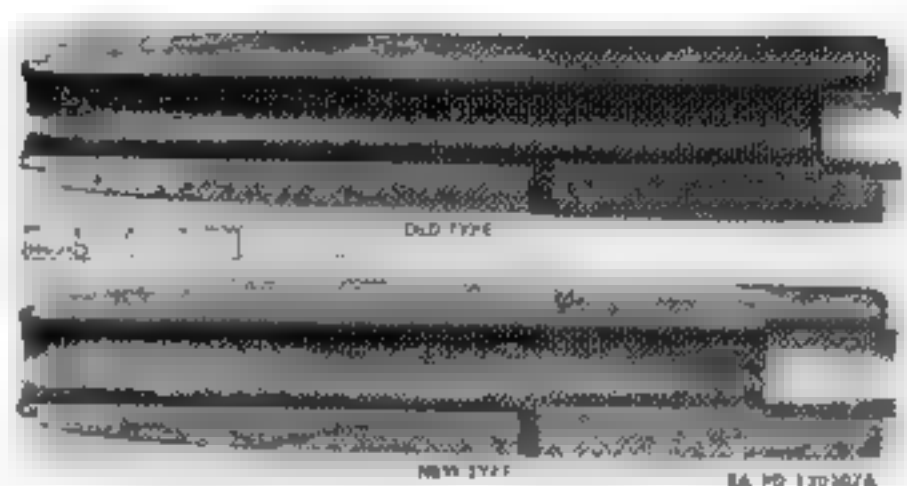

Figure 99. Hand guard assembly 6212602.
*h. Hand Guard Liner* Check to assure that liner in hand guard assembly is not distorted and is securely fastened to hand guard. Liners with two rivets or with four rivets, if serviceable, may be used on carbines M1 and M1A1. Only the four-rivet type hand guard assembly 6212602 is to be used on the carbines M2 and M3 (Fig. 99).